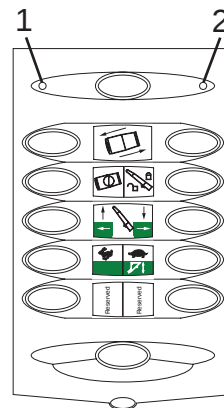

Figure 59
1. The Battery Low (Figure 59, Item 1) and Active (Figure 59, Item 2) LED indicators on the transmitter are used to indicate the status of the transmitter.